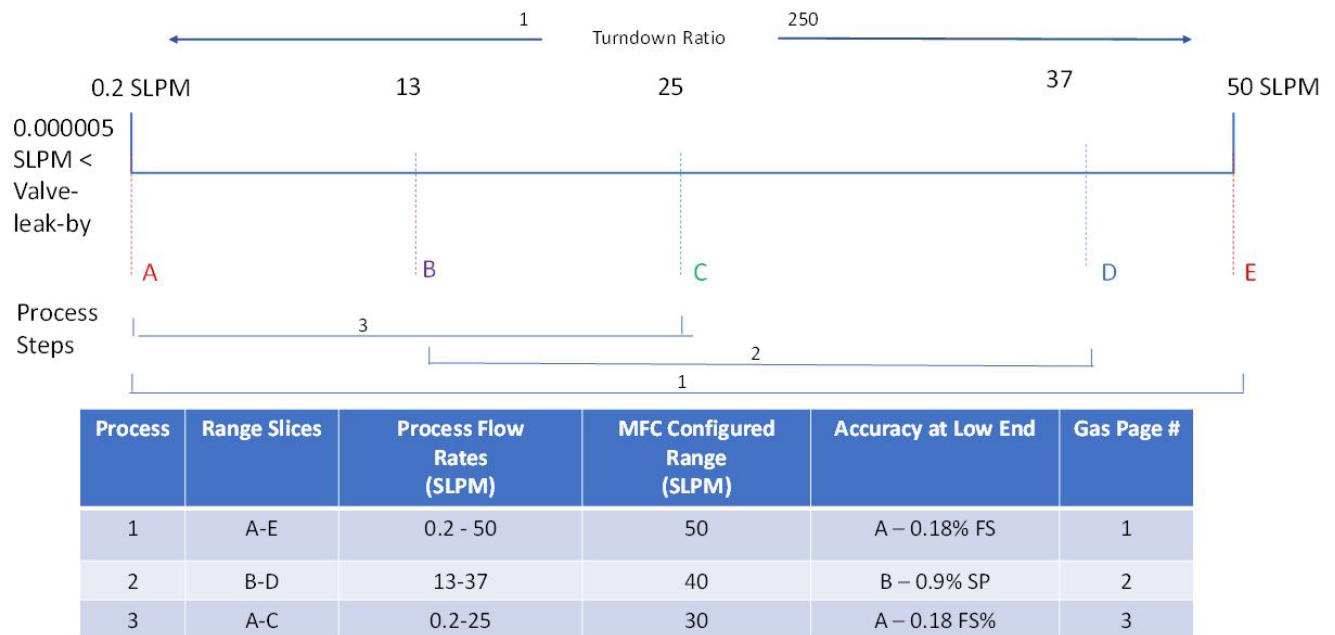

Figure 4. Range Slice Example for 50 SLMP O2 MFC
Figure 4 (See Page 15) depicts the concept of ranges slices within the cardinal range and turndown ratio, using three slices (A-E, B-D and A-C) corresponding to three different processes (1-3), respectively. Configured range is the MFC active gas page full scale setting to address the range slice. The tabular information provides MFC's configured range, flow accuracy at the minimum of the range slice range and chosen gas page. This range slice approach allows one (1) MFC with a cardinal range of 50 slpm, large turndown ratio and three gas pages to satisfy flow requirements for three (3) distinct processes, all within a user-defined accuracy window. Process 1 requires between 0.2 and 50 SLPM of O2 flow (range slice A-E). The 250:1 turndown and device accuracy ensures stable, accurate repeatable flow at the low end. The same MFC can be configured to 30 SLPM, in-situ, by digitally selecting the appropriate pre-defined gas page. This enables process 3 to be run at 0.2 SLPM – 30 SLPM without removing and recalibrating the MFC. Process 2 has a narrower range, highlighted by minimum flow rate well within the MFC's capabilities.